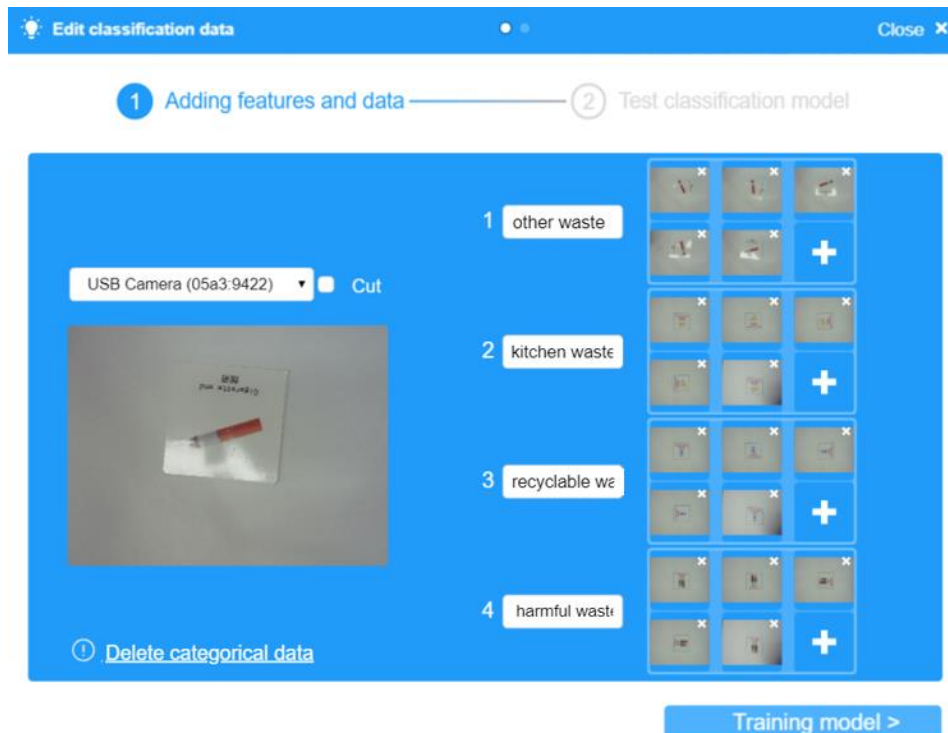

Figure 3.3 Garbage image collection
Step 3: Add features and data (that is, collect garbage images), take pictures of the types of garbage that need to be identified, and store them, as shown in Figure 3.3.